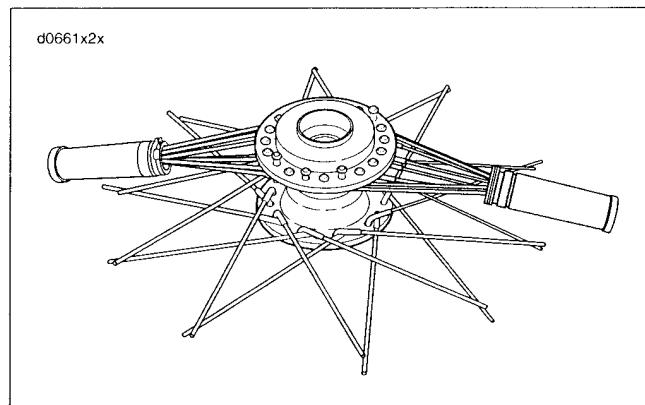

Figure 2-30. Bundling Top Spokes
- See Figure 2-30. With all forty spokes inserted in hub, group all spokes on top flange into two bundles. Secure each group with throttle grips to keep the spokes together.